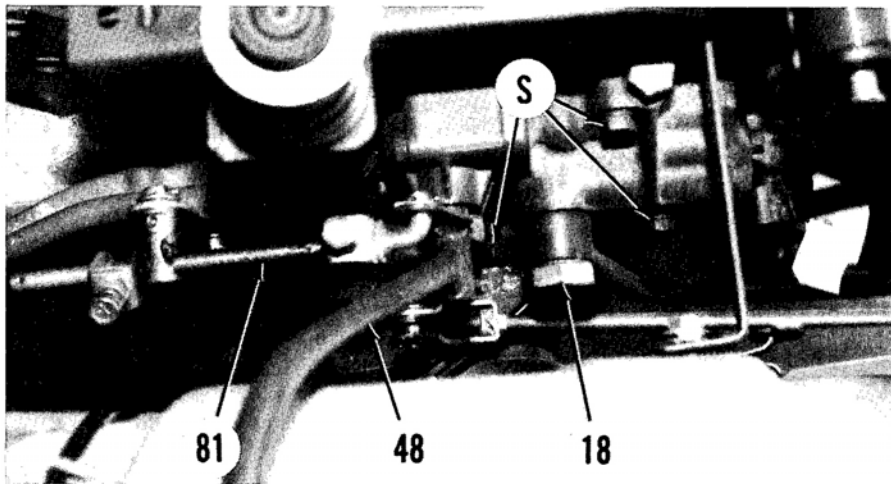

Fig. 100 - Top view of control valve and related components.
**97. REMOVE AND REINSTALL.** Drain transmission/hydraulic system fluid into a suitable container. Detach control rod (81-Fig. 100) from lever (48). Remove fitting screw (18) while noting copper washers (17-Fig. 96). If needed, remove control valve hydraulic supply line. Remove any other components that will obstruct control valve assembly removal. Remove the three cap screws (S-Fig. 100) securing control valve assembly to lift cover, then remove control valve. Note the two "O" rings (32-Fig. 101) located between control valve and lift cover.
Installation is reverse order of removal. Renew "O" rings (32) and tighten cap screws (S-Fig. 100) to